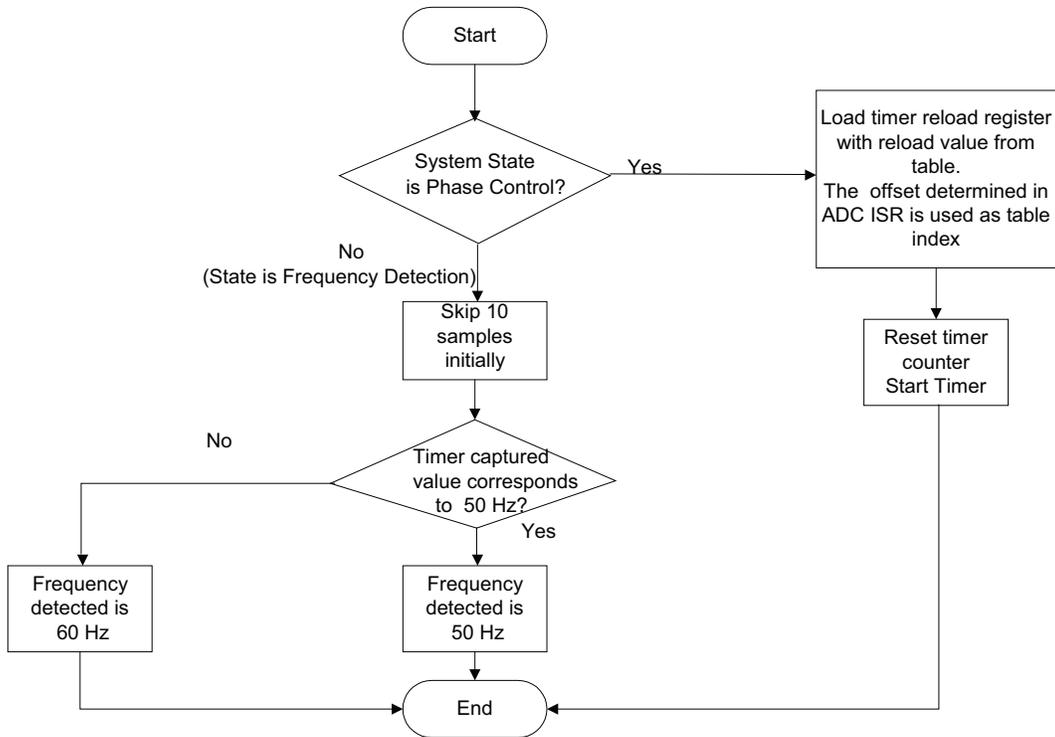

Figure 6. Comparator ISR
- Comparator Interrupt Service Routine (ISR) (Figure 6)